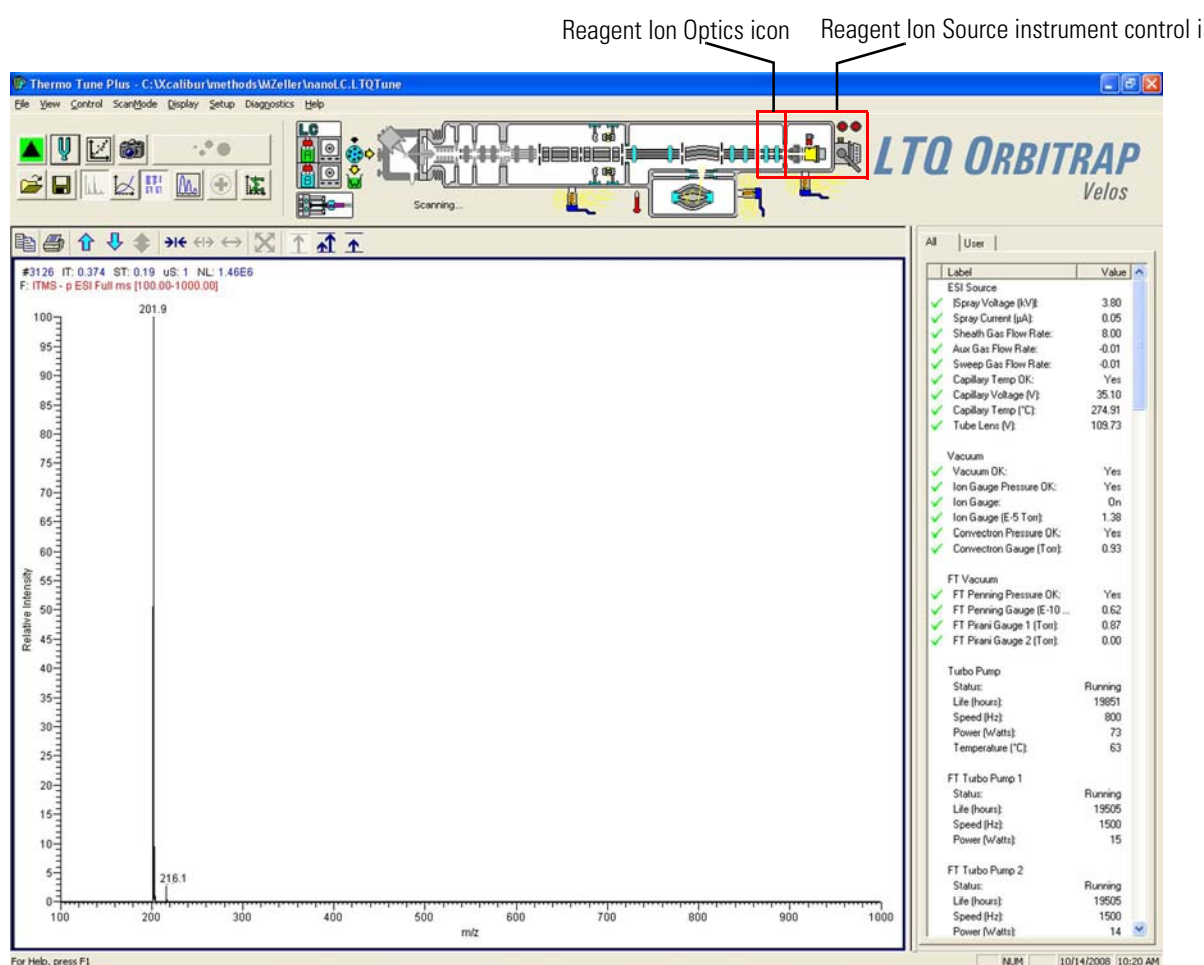
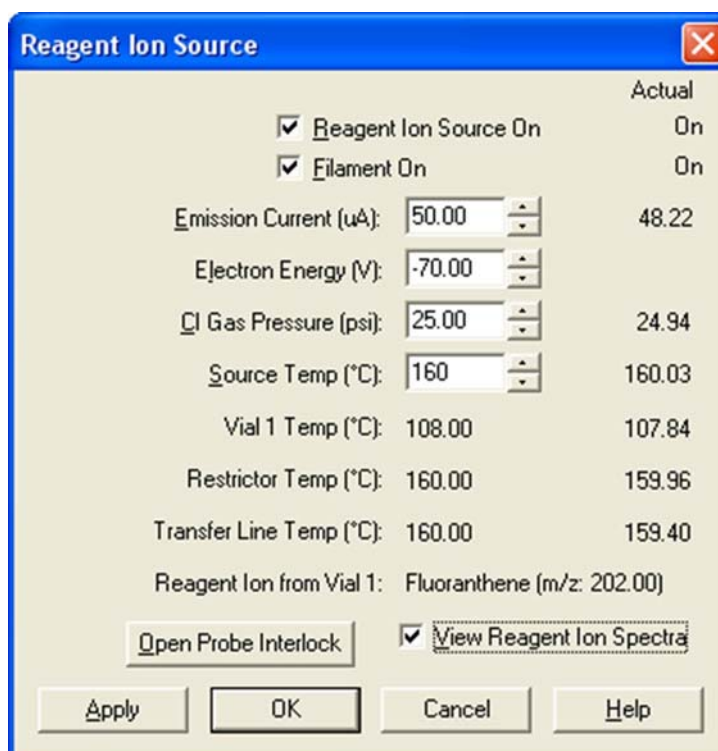

Figure 7-1. Status View for LTQ Orbitrap Velos ETD
Figure 7-5. Reagent Ion Source dialog box
The Tune Plus window shows a schematic view of the LTQ Orbitrap Velos ETD instrument. See Figure 7-1. The instrument control icon in the toolbar allows accessing parameters for the reagent ion source and the reagent ion optics.
The Reagent Ion Source dialog box allows setting selected ETD reagent ion source parameters. See Figure 7-5 on page 7-6. The actual parameter values are shown on the right side of the dialog box.
1. Click the **Reagent Ion Source** instrument control icon in the toolbar of the Tune Plus window. (See icon in margin and Figure 7-1 on page 7-2.) The Reagent Ion Source dialog box appears. (See Figure 7-5 on page 7-6.)
2. In the Reagent Ion Source dialog box, click the **Reagent Ion Source On** check box. (See Figure 7-5.) If the reagent vials are not at their target temperature, a message box appears. See Figure 7-9. When the reagent vials reach their target temperature, voltage is applied to the ETD Module ion optics. The filament automatically turns on; the Filament On check box automatically shows a check mark and its actual condition switches from Off to On.
The Tune Plus window opens. (See Figure 7-1 on page 7-2.)
You can also tune the reagent ion source. When the Reagent Ion Source dialog box is open (See Figure 7-5 on page 7-6.), click the **Tune** button in Tune Plus.